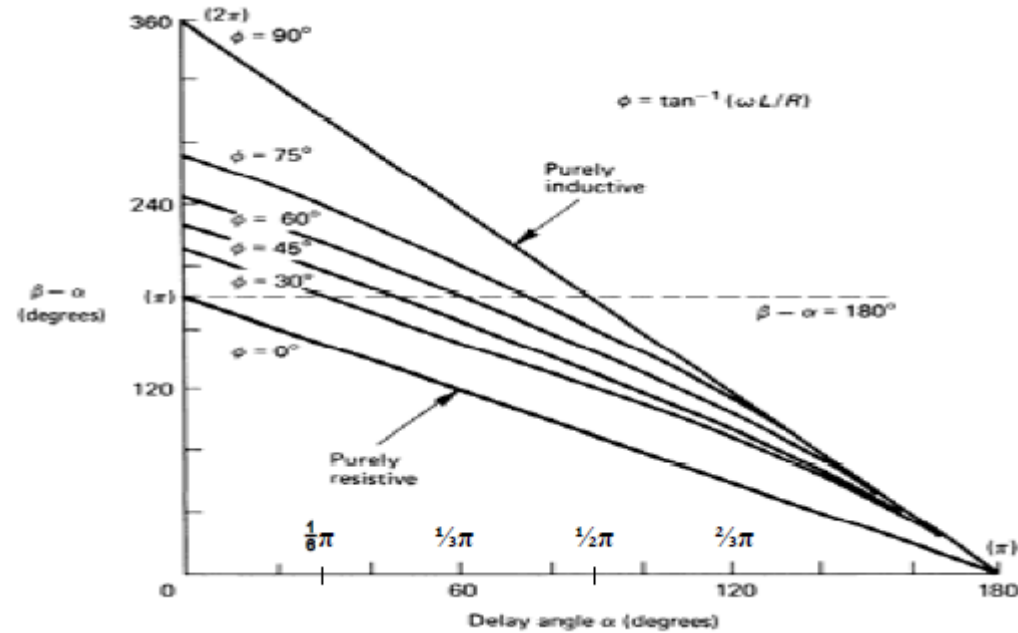

Fig. 5.2 Half-wave, controlled converter thyristor trigger delay angle  $\alpha$  versus thyristor conduction angle,  $\beta - \alpha$
- A family of curves of current conduction angle versus delay angle, that is  $\beta - \alpha$  versus  $\alpha$ , is shown in figure 5.2. The plot for  $\phi = \frac{1}{2}\pi$  is for a purely inductive load, whereas  $\phi = 0$  is a purely resistive load.
where the angle  $\beta$  can be extracted from Fig. 5.2. The rms load voltage is
Thus,  $Z = 10.04 \Omega$ ,  $\phi = \frac{\pi}{4}$ ,  $\gamma = \beta - \alpha = 195^\circ$  (from Fig. 5.2)